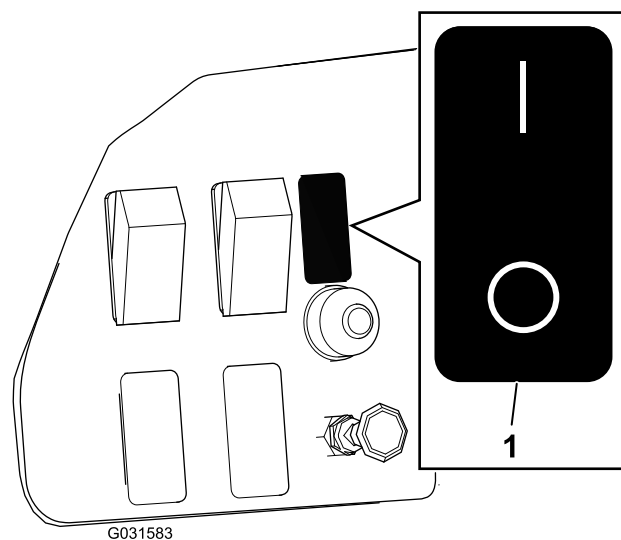

Figure 3
4. Place the decal on the dash next to the switch (Figure 3).